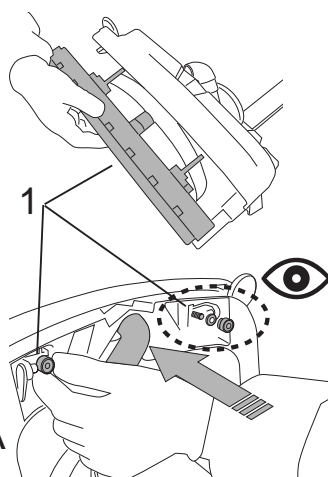

Fig.2A
- Instale o squeegee dianteiro (Fig.2A-Ref.1).